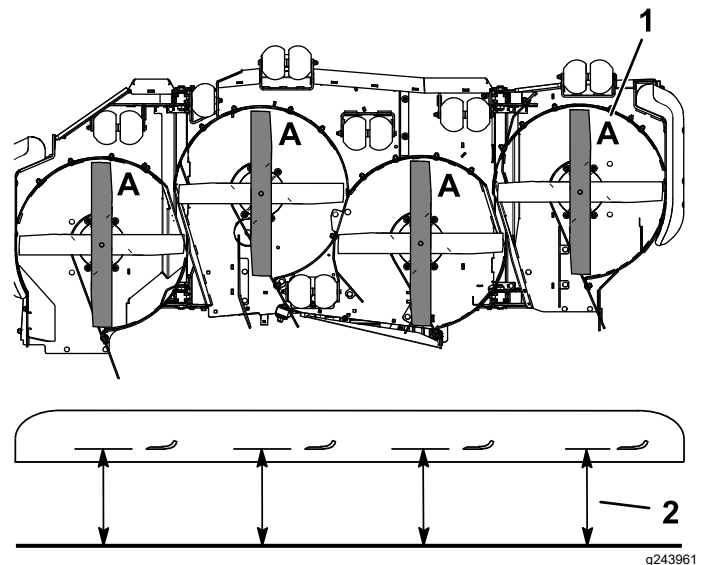

Figure 80
3. Rotate the blades until the ends face forward and backward (Figure 80).
4. Measure from a level surface to the cutting edge, position A, of the blades (Figure 80).